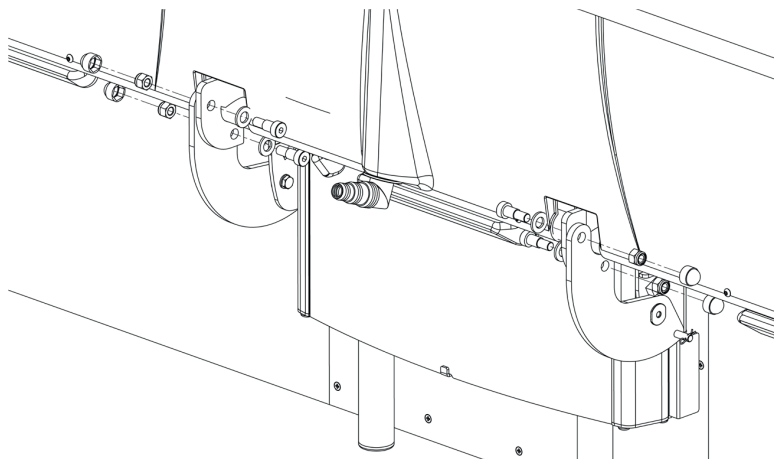

Fig 12.7d
- Once in position secure the provided M10 x 16 mm bolts and M10 nuts provided. Finish by covering the nut with the caps provided as shown in Fig 12.7d.